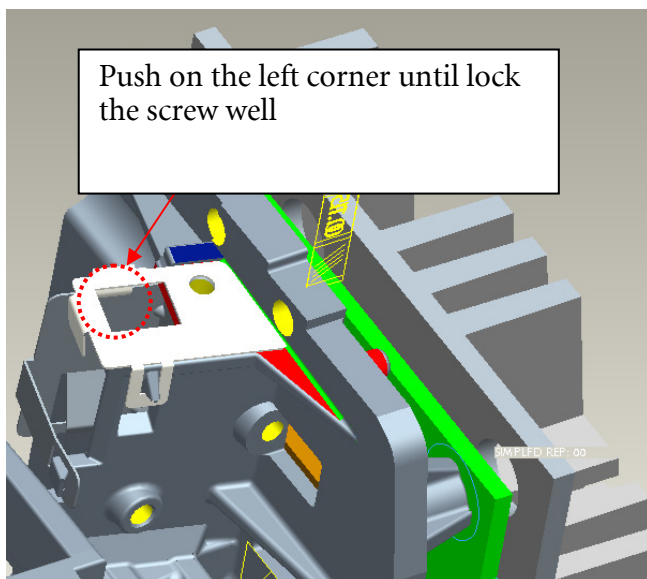

Fig. 1-7
- v. When Lock the screw of Baffle LP ,the hand must push the left corner of Baffle LP before (Fig. 1-7),.